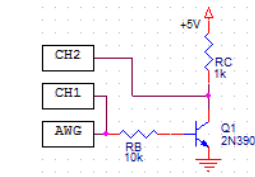

Figure 61: Amplifier circuit
- 1) Build the circuit shown on figure 61.